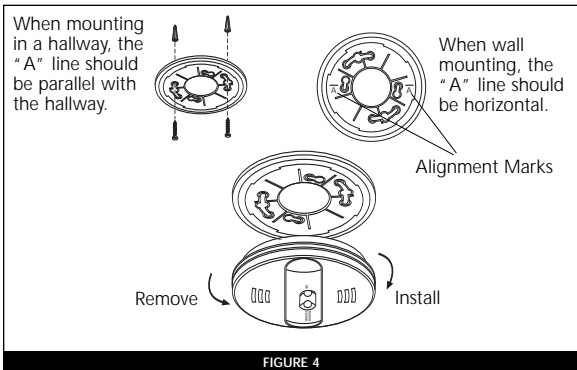

FIGURE 4
3. After selecting the proper smoke alarm location as described in section 1, attach the mounting plate to the ceiling as shown in figure 4. For wall mounting see figure 4. Place mounting plate on the wall. Be sure the "A" line is horizontal. Use the screws and anchors provided to secure the mounting plate (use 3/16" drill bit for anchor holes).
To replace the battery, remove the alarm from the mounting plate by rotating the alarm in the direction of the "OFF" arrow on the cover (see section 3, figure 4).